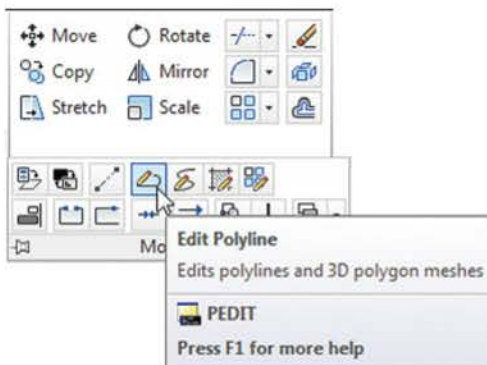

Fig. 4.20 Calling Edit Polyline from the Home/Modify panel
2. Call the **Edit Polyline** tool either from the **Home/Modify** panel (Fig. 4.20) or from the **Modify** drop-down menu, or by *entering* `pe` or `pedit`. The command line sequence then shows: